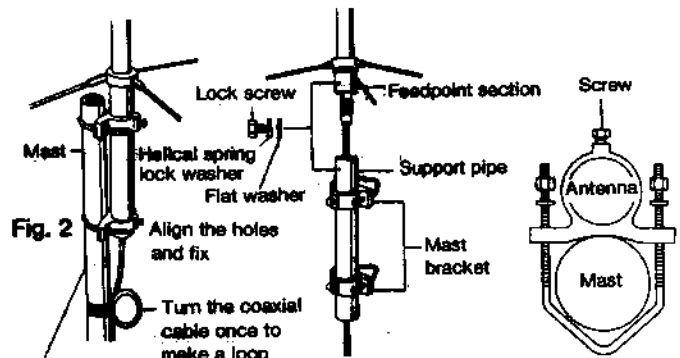

Fig. 2
9. Attach assembled antenna on a mast by taking whole balance into account as shown in Fig.2. Turn coaxial cable once to make a loop at right bellow the antenna to escape excess load from the cable.